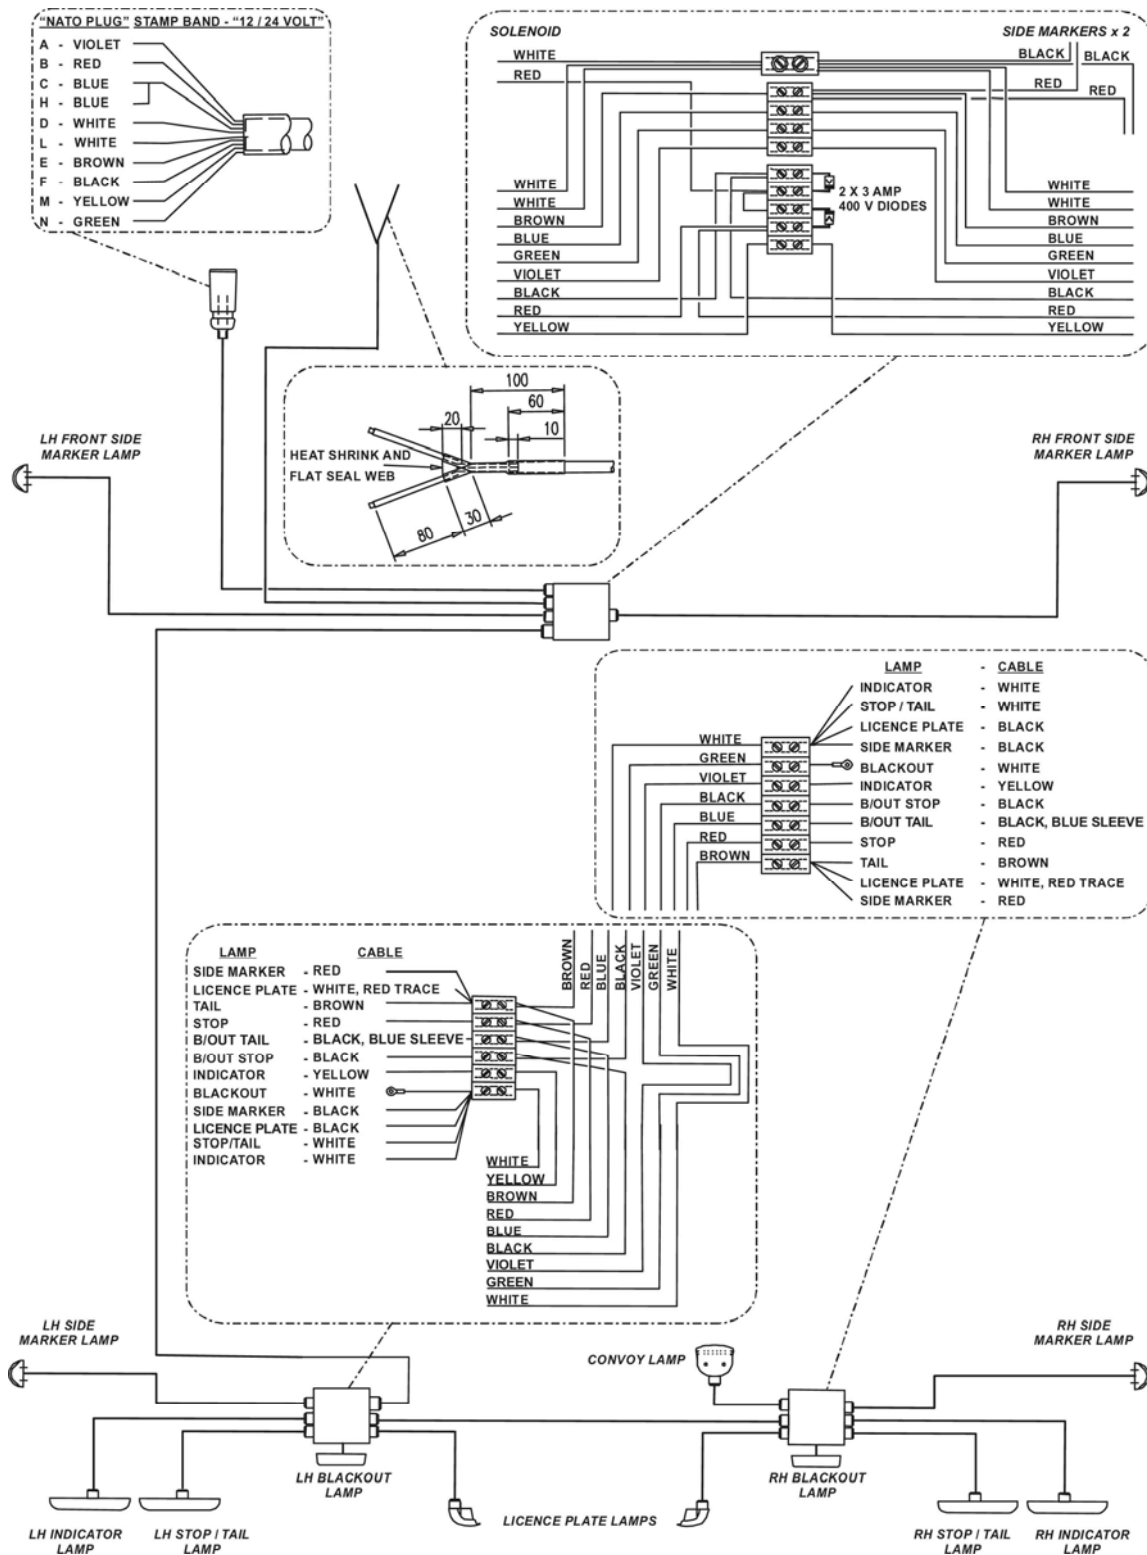

Figure 13 Electrical Wiring Diagram
70. The electrical system is a 12- or 24-volt dc electrical system coupled to the towing vehicle by a 12-pin NATO socket and plug. All lighting connected to the electrical system is compatible with both 12- and 24-volt dc towing vehicles. The brake master cylinder has a solenoid fitted to lock out the trailer brakes unless the towing vehicle brake lights are activated. An electrical wiring diagram is shown in Figure 13.
71. The system includes two diodes fitted into the forward junction box on the trailer. These diodes are fitted to allow the brake override solenoid to be energised by either the normal stop light circuit or the blackout stop light circuit, whichever system is active. Each diode allows power to pass to the solenoid from its respective circuit, whilst preventing power passing from the other circuit. If normal brake lights illuminate when on blackout and the brakes are applied, check the polarity of the diodes in the front junction box as shown in Figure 13.